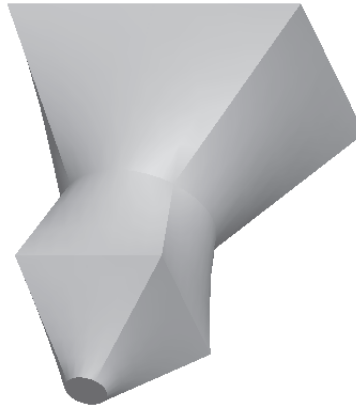

Figure 7-113 Shaded model
2. Choose the **Saved view list** button from the **View** toolbar. From the drop-down list, choose the **Default Orientation** option. The model orients in the drawing area, as shown in Figure 7-113. You can use the middle mouse button to change the orientation of the model.